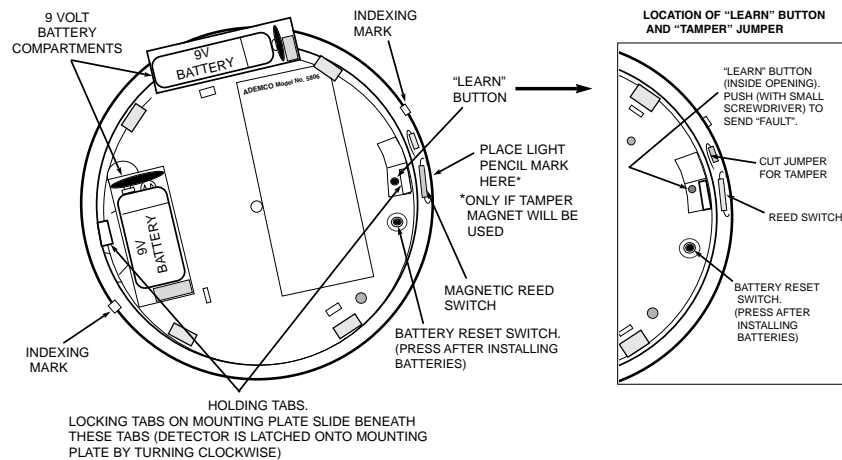

Figure 1. Bottom View of Smoke Detector (without mounting plate)
2. Install the new 9-volt alkaline batteries in their respective compartments as follows: Snap the battery contacts onto the terminals of the first battery (be sure to observe correct polarity and do not force battery clips). Holding the contacts on the battery, install the battery into its compartment. Make sure the battery is fully seated (see Figure 1),
3. Momentarily press the **Battery Reset** switch on the detector (see Figure 1 for location).
The control system must "learn" the smoke detector's ID during installation of the system. The control should be programmed to "learn" the 5806 as an "RF" type unit* (i.e., supervised RF). With the control in the programming mode, use a small screwdriver to push the "Learn" button (see Figure 1) to send a FAULT, then release it to send a RESTORE. During "learning", wait one or two seconds for the keypad's confirming short beep before pushing the button a second time. See the control unit's installation instructions for further details.
For tamper protection, cut the wire jumper indicated in Figure 1. After the detector has been mounted, a magnet must then be installed on the wall or ceiling next to the detector.
To ensure proper positioning of the magnet after the detector has been mounted, place a light pencil mark on the side of the detector near the center of the reed switch (see Fig. 1).